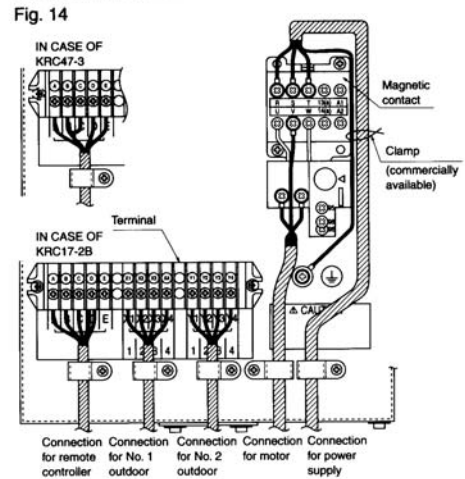

Fig. 15 Position of the switch box in relation to the indoor unit
- Install the switch box in an easily accessible location (see Fig. 15). If there is no place nearby that might provide easy access to the switch box, install it onto the air outlet side of the indoor unit using the two holes on the front plate.